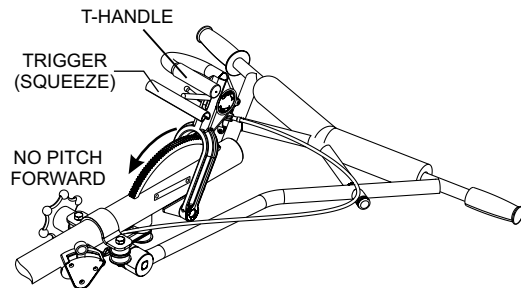

Figure 10. Blade Pitch T-Handle (Quick Pitch™ Handle)
- For **Quick Pitch™ Handle** models expose the pitch cable to maximum by grasping the T-handle (Figure 10), then squeezing the trigger lock and pushing the T-handle forward for no pitch (blades flat).